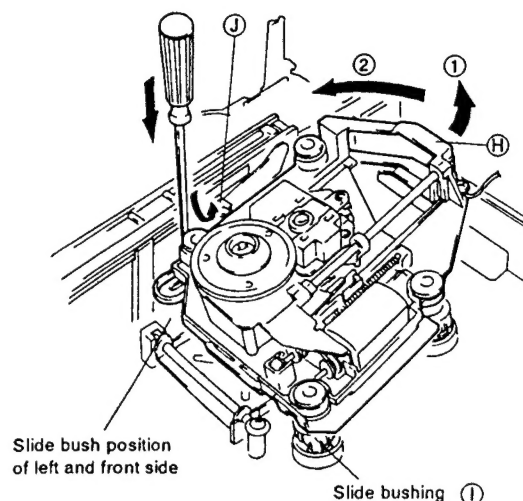

Fig. 2-4
- ④ Push the slide bushing at the front left with a thin implement such as a ⊖ screwdriver (Fig. 2-4).
- ⑤ Pull up the rear side H of the servo mechanism assembly. (Arrow ① in Fig. 2-4)
- ⑥ To release the engagement at section ① of the servo mechanism assembly, turn the assembly counterclockwise on the slide bushing ① (Arrow ② in Fig. 2-4).